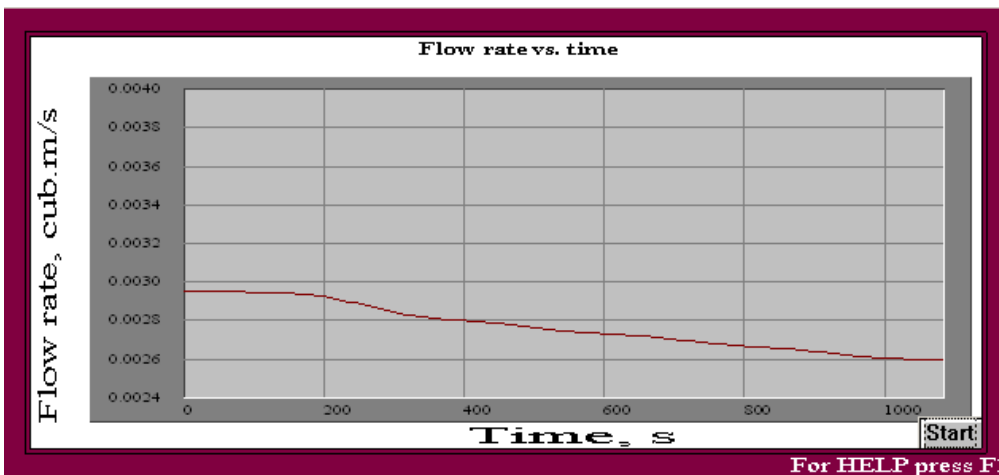

Figure 26.
2. Difference of pressure between inlet and outlet of pipeline is positive, but is not too high. Reduction of liquid level causes decrease of pressure head in supplying part of the pipeline, and as a result – reduction of flow rate (Figure 26).